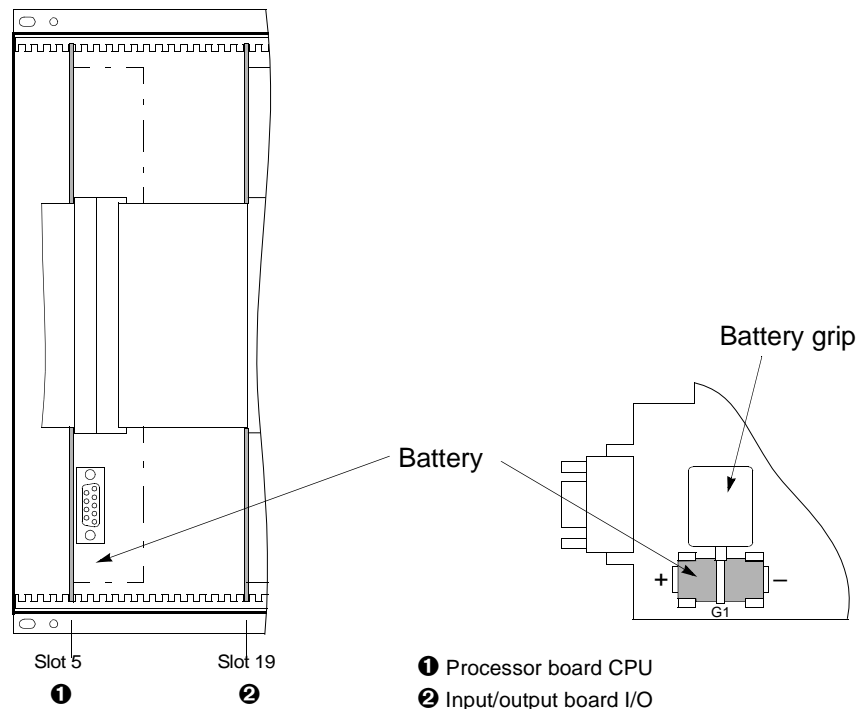

Figure 9-1 Front view without front panel – position of buffer battery (simplified and reduced)
- ☐ Disconnect the ribbon-cable that links the front panel and the CPU board (❶), at the side of the front panel. To disconnect the cable, push up on the top latch of the plug connector and push down on the bottom latch of the plug connector. Carefully set aside the front panel.
- ☐ The battery is located on the bottom-front side of the CPU (❶) board. See Figure 9-1.
- ☐ Remove the old battery from the snap-on connector using the plastic battery grip shown in Figure 9-1.
- ☐ Observing the polarity and firmly insert the new battery into the snap-on connector shown in Figure 9-1.
- ☐ Connect the ribbon-cable between the CPU (❶) board and the front panel. Be especially careful not to bend any of the connector pins! Do not use force! Be sure that the plug connectors latch.